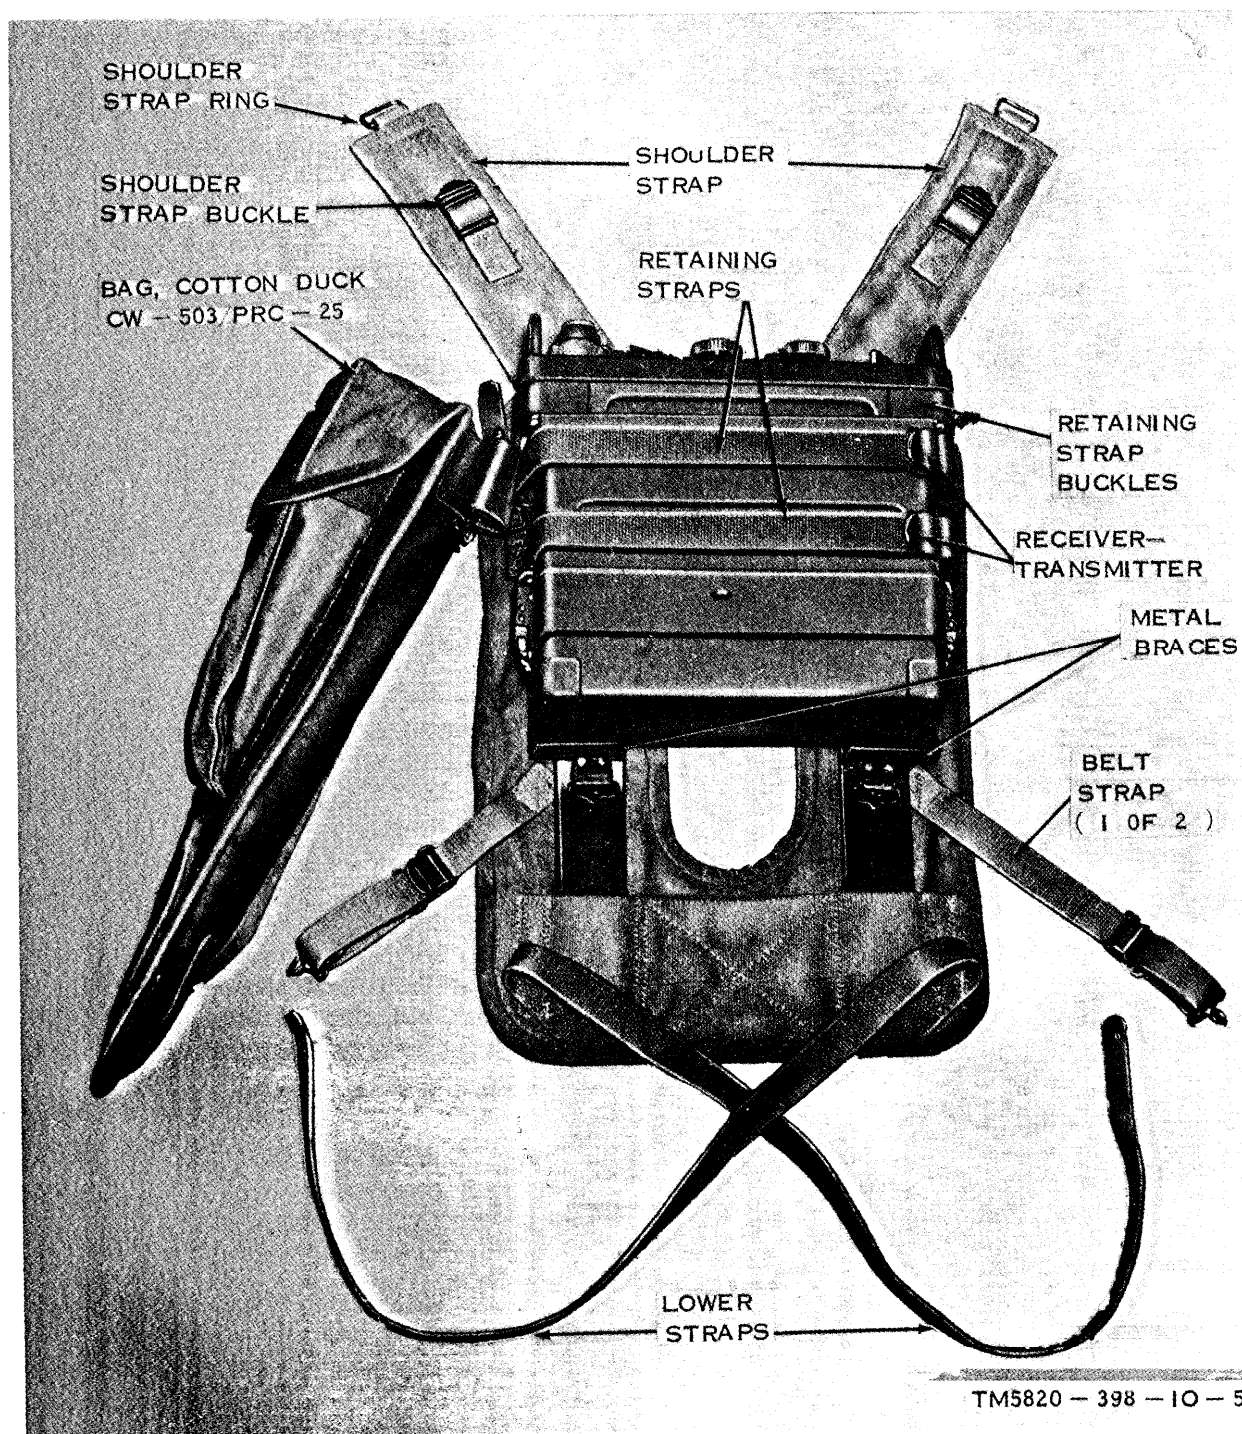
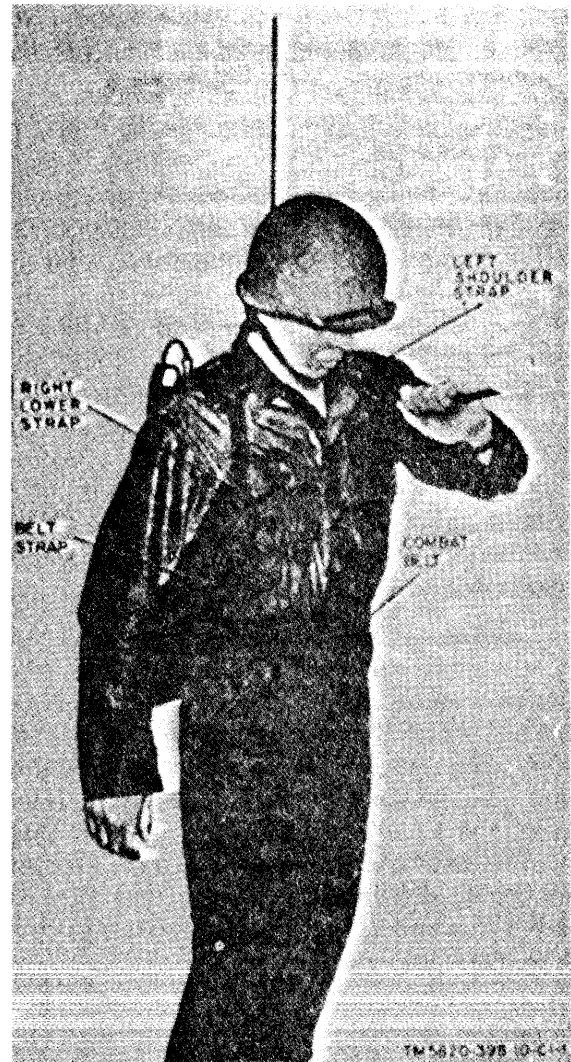

Figure 2-3. Installation of receiver-transmitter in ST-138/PRC-25.
Figure 2-4. Installation AN/PRC-25 for man-pack operation.
a. Attach the ST-138/PRC-25 (fig. 2-3) to the RT-505/PRC-25 as instructed in (1) through (4) below.
(3) Fasten the RT-505/PRC-25 to the ST-138/PRC-25 with the two retaining straps; feed the metal-tipped strap from below, through the center slot on the buckle and then down through the end slot in the buckle.
(4) Clip the CW-503/PRC-25 to the ST-138/PRC-25.
b. Mount the ST-138/PRC-25 (fig. 2-4) on the operator as follows:
(1) Install the desired antenna (para 2-6).
(2) Connect the handset to one of the AUDIO connectors on the front panel of the RT-505/PRC-25.
(3) Place the ST-138/PRC-25, with the RT-505/PRC-25 attached, on the operator's back. Place the shoulder straps over the operator's shoulders.
(4) Feed the end of the right lower strap through the right shoulder strap ring. Feed the metal tip of the strap from below, through the center slot in the buckle and then down through the end slot (fig. 2-3).
(5) Feed the end of the left lower strap through the ring of the left shoulder strap. Feed the metal tip of the strap from below, through the center slot in the buckle and then down through the end slot in the buckle (fig. 2-3).
(6) Hook the two belt straps to the combat belt.